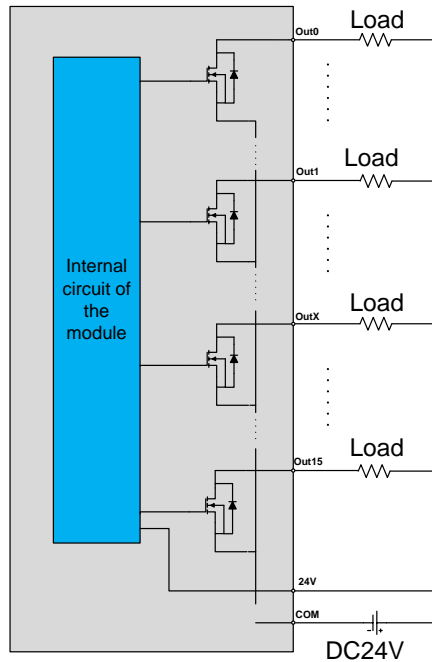

Figure 5.15 Terminal wiring
- For voltage input, use V+ and VI- for input, as shown in figure 5.15, and ensure the voltage input is within the range.